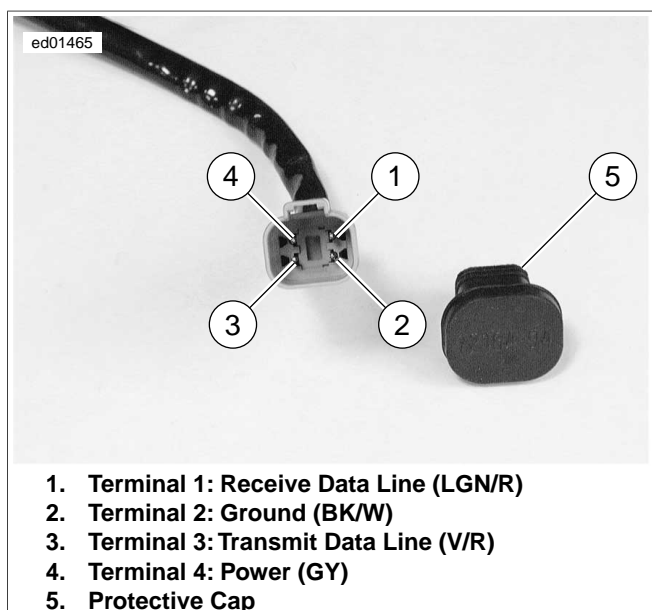

Figure 2-7. Data Link Connector Pin Identification
- b. See Figure 2-7. Install diagnostic test wire across terminal "1" and terminal "2" on the data link connector [91A].